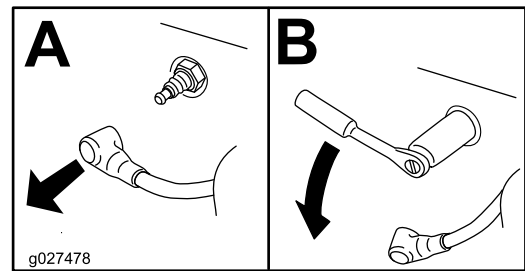

Figure 48
4. Remove the spark plug (Figure 48).